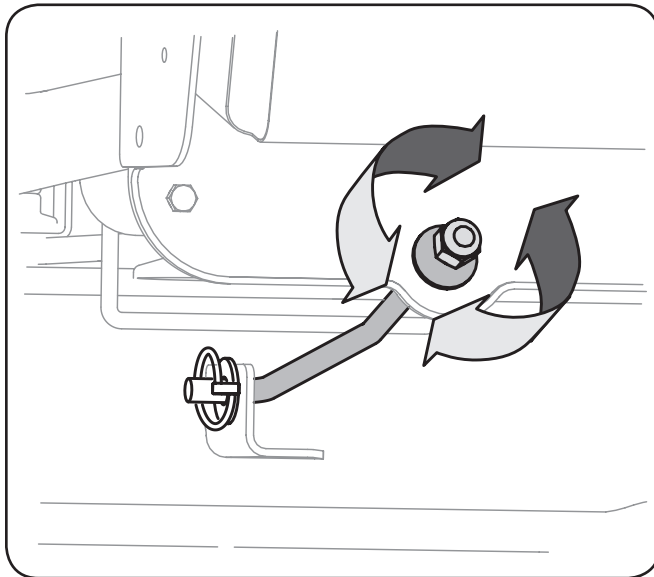

Figure 6-4
1. Locate the hex lock nut on the end of the deck hanger rod. See Figure 6-4.
3. To *lower* the front of the deck, loosen (thread outward) the hex nut, away from the front hanger bracket. See Figure 6-4.